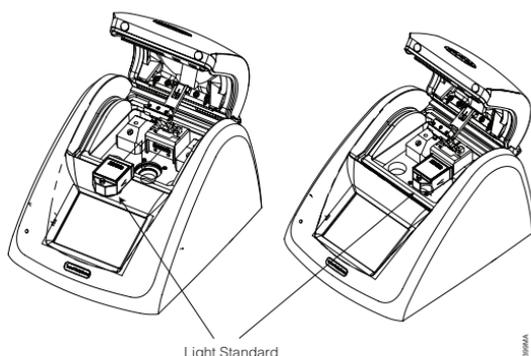

Figure 13. Inserting the Light Standard into the Sample Compartment.
3. Insert the Light Standard into the sample compartment (Figure 13).